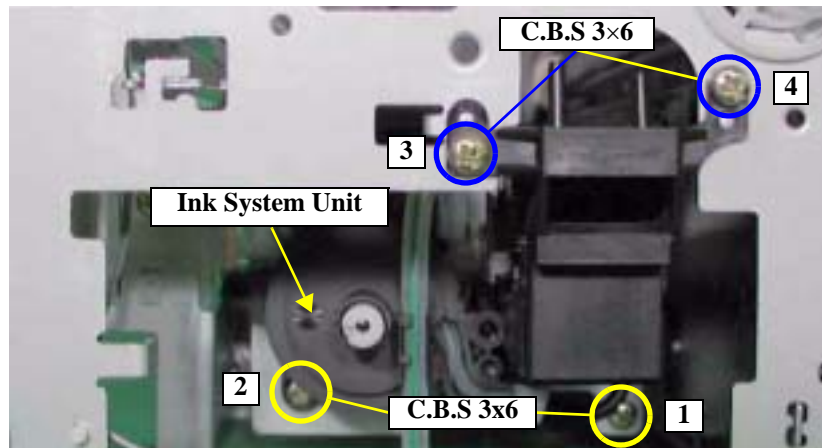

Figure 4-83. Removing the Ink System Unit
Fit the screws (6) C.B.S 3×6 in the order shown in Figure 4-83.
Refer to Figure 4-83, "Removing the Ink System Unit" and Figure 4-84, "Removing the Cap Unit".